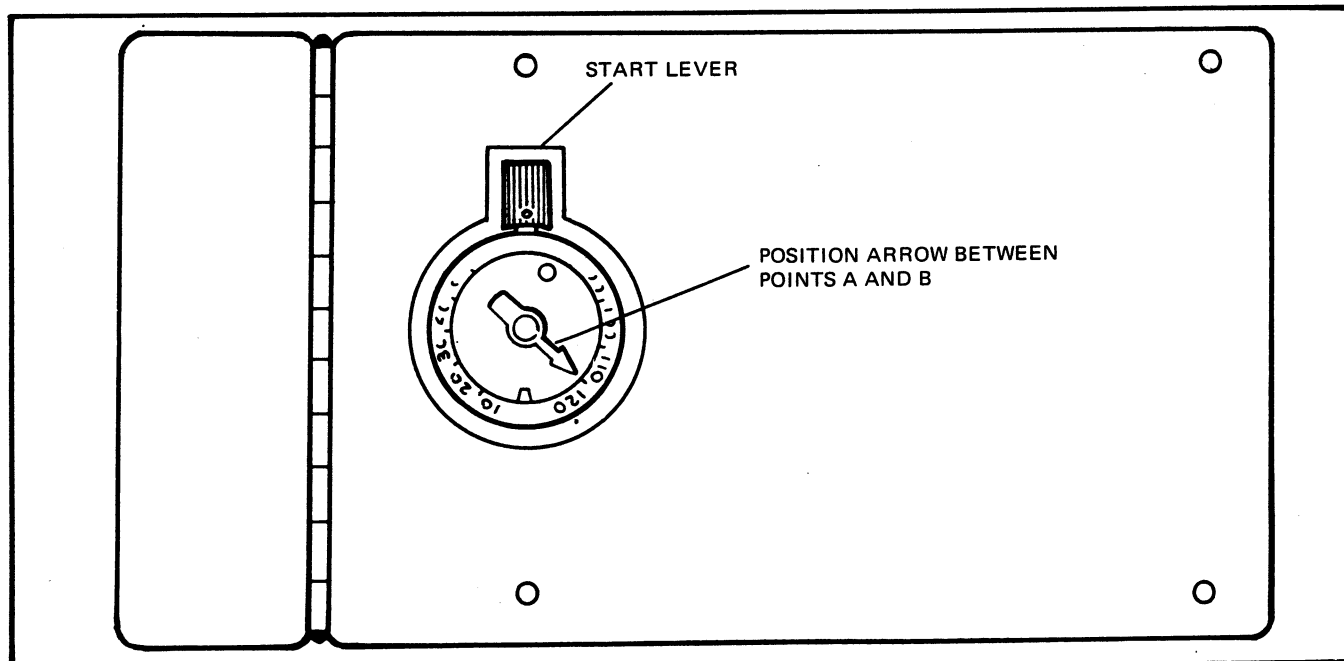

FIG. 5.32 INSTALLING THE TIMER
1. Position the number dial on the new timer and install the assembly in the rear door as shown in Figure 5-32.
shown in Figure 5-32. Replace the remaining two screws (and light seal if one was removed).